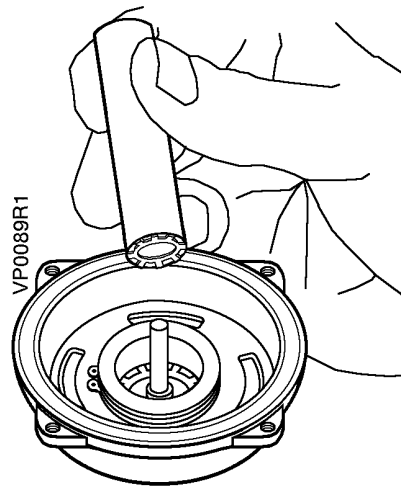

Figure 2. Replacing the Push-on Retaining Ring.
11. A new push-on retaining ring must be used because the old ring is usually damaged when it is removed. Place a little silicone grease on the end of a piece of 5/8-inch OD copper tubing to hold the ring. See Figure 2. Use the tubing to press the ring into place.